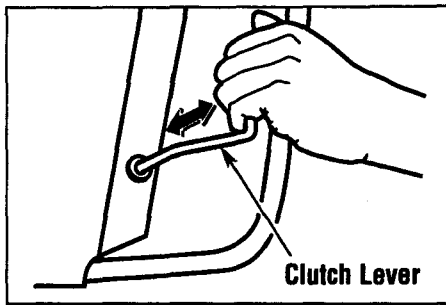

Figure 3-5: Squeeze clutch lever against handlebar when starting engine. Release clutch lever slowly after engine starts.
Use the clutch lever (Figure 3-5) when starting the engine. Engaging the lever releases tension on the cylinder assembly drive belt (Figure 3-6) to make engine starting easier.
5. Squeeze the clutch lever (Figure 3-5) up against the handle. Grasp the engine starter rope handle and pull slowly until resistance is felt. Then pull cord rapidly to overcome compression, prevent kickback and start engine. Let the rope rewind gradually. Repeat if necessary with choke off.